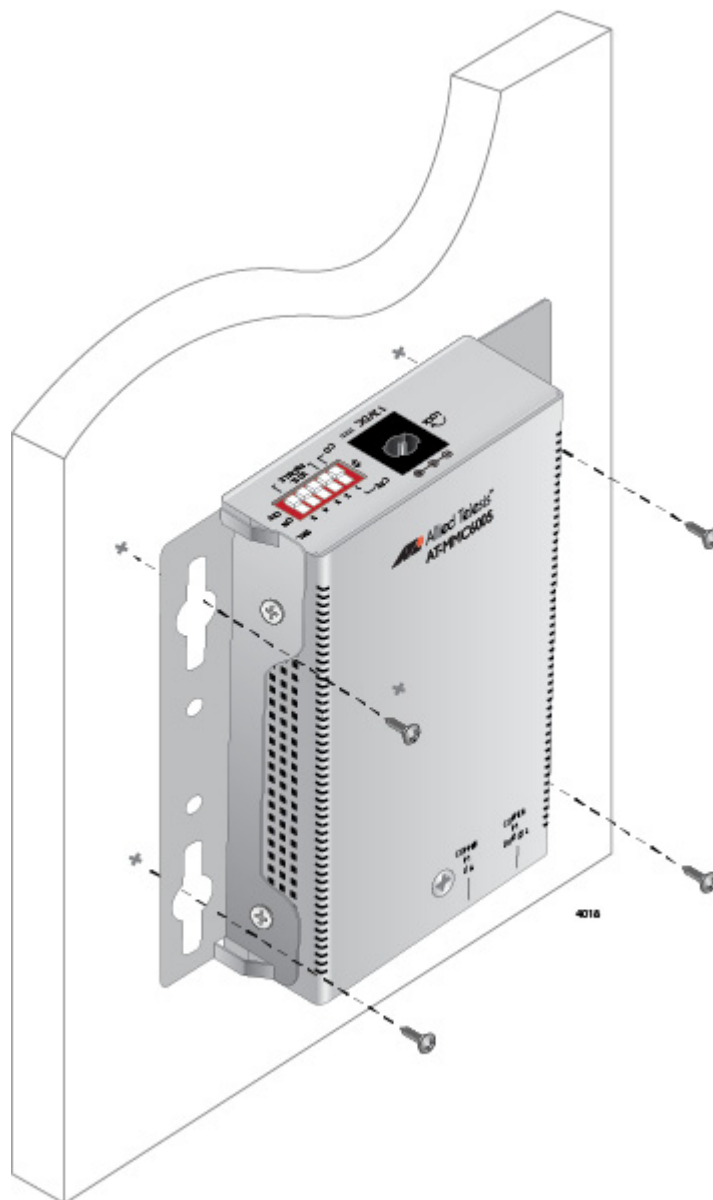

Figure 24. Securing the Media Converter to the Wall
10. Secure the media converter unit to the wall using four wall-mounting screws. See Figure 24 on page 58.